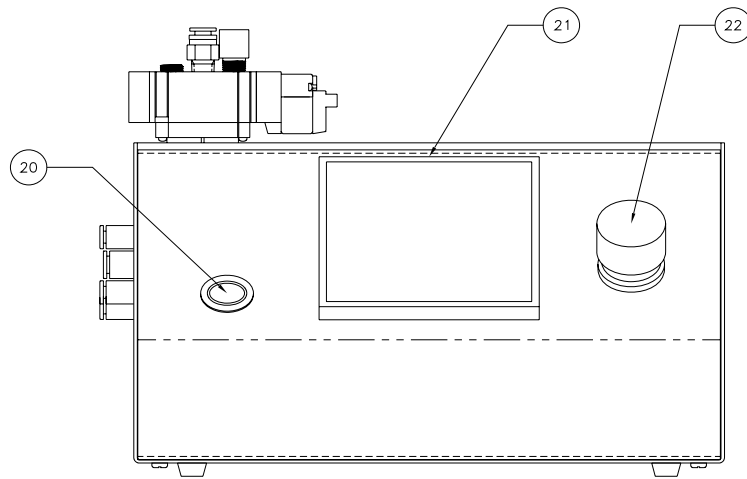

Figure 3, Front Panel Interface.
2.3 Front Panel Interface, refers to Figure 3
4.2 Operation, refers to Figure 3